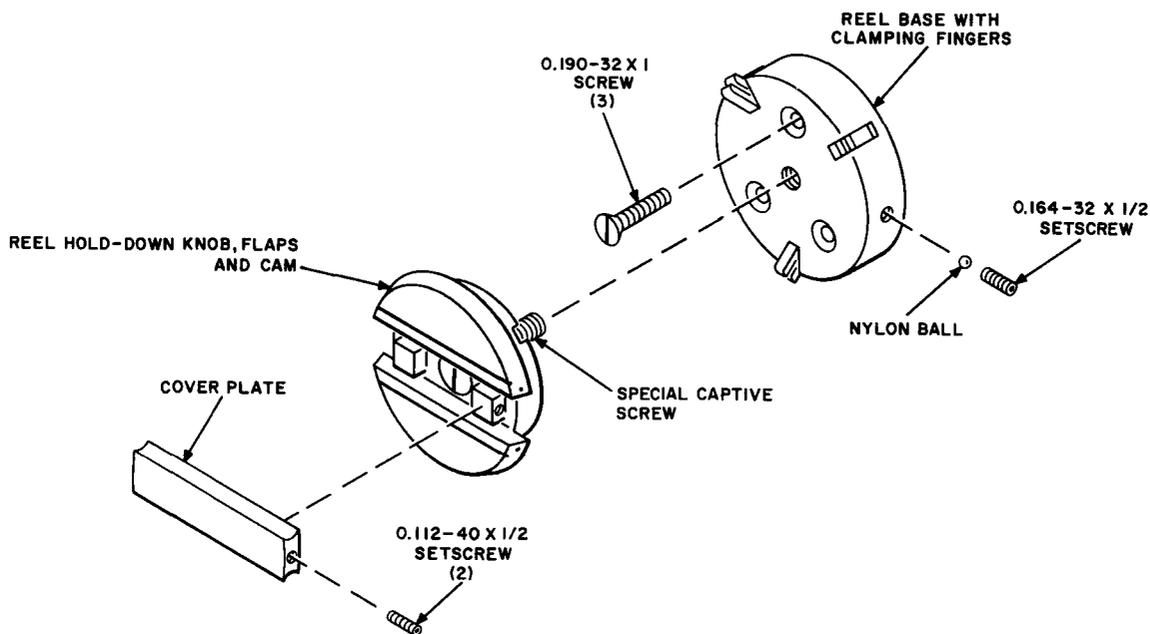

Fig. 10 — KS-19125, L 102 Reel Hold-Down Knob — Exploded View
- (1) Loosen two setscrews in cover plate (Fig. 10), using a 0.050-inch Allen wrench, until cover plate can be removed.
- (2) Loosen setscrew which holds nylon ball against threads of special captive screw under cover plate several turns using a 5/64-inch Allen wrench.
- (3) Turn reel turntable until setscrew in (2) above is down.
- (4) Remove semicircular flaps and Delrin cam of knob by loosening special captive screw using a 5-inch E screwdriver.
- (5) Check that nylon ball is still in captive screw hole, and place a piece of pressure tape over hole of captive screw in reel clamping assembly to prevent losing nylon ball. Do not cover machine screws.
- (6) Remove three screws which secure reel clamping assembly using a 4-inch E screwdriver. Support part to prevent its falling when removing last screw.
- (7) Check and adjust turntable as described in (c) below.
- (8) Replace hold-down knob by reversing the procedure in (1) through (6) above. Make certain that nylon ball is in place in setscrew hole inside special captive screw hole before replacing special captive screw and that any adhesive from the pressure tape is removed from the surface. The special captive screw should be tightened until about one quarter turn of hold-down knob causes full operation of clamping fingers.